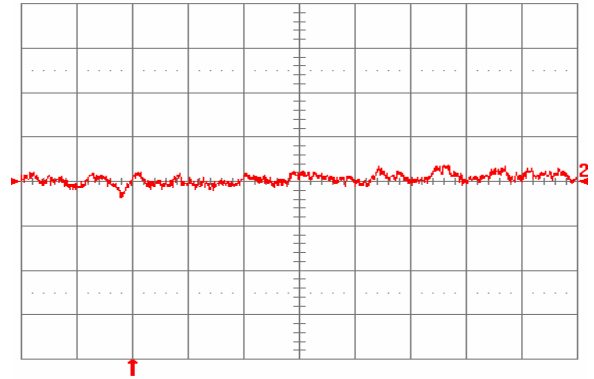

**Fig. 12V.14:** Test Setup for measuring input reflected ripple currents,  $i_c$  and  $i_s$ .
**Fig. 12V.1:** Available load current vs. ambient air temperature and airflow rates for SQ48T04120 converter with D height pins mounted vertically with  $V_{in} = 48\text{ V}$ , air flowing from pin 3 to pin 1, and maximum FET temperature  $\leq 120^\circ\text{C}$ .
**Fig. 12V.2:** Available load current vs. ambient air temperature and airflow rates for SQ48T04120 converter with D height pins mounted horizontally with  $V_{in} = 48\text{ V}$ , air flowing from pin 3 to pin 1, and maximum FET temperature  $\leq 120^\circ\text{C}$ .
**Fig. 12V.3:** Available load current vs. ambient air temperature and airflow rates for SQ48S04120 converter mounted vertically with  $V_{in} = 48\text{ V}$ , air flowing from pin 3 to pin 1, and maximum FET temperature  $\leq 120\text{ }^{\circ}\text{C}$ .
**Fig. 12V.4:** Available load current vs. ambient air temperature and airflow rates for SQ48S04120 converter mounted horizontally with  $V_{in} = 48\text{ V}$ , air flowing from pin 3 to pin 1, and maximum FET temperature  $\leq 120\text{ }^{\circ}\text{C}$ .
**Fig. 12V.5:** Efficiency vs. load current and input voltage for SQ48T/S04120 converter mounted vertically with air flowing from pin 3 to pin 1 at a rate of 300 LFM (1.5 m/s) and  $T_a = 25\text{ }^{\circ}\text{C}$ .
**Fig. 12V.6:** Efficiency vs. load current and ambient temperature for SQ48T/S04120 converter mounted vertically with  $V_{in} = 48\text{ V}$  and air flowing from pin 3 to pin 1 at a rate of 200 LFM (1.0 m/s).
**Fig. 12V.7:** Power dissipation vs. load current and input voltage for SQ48T/S04120 converter mounted vertically with air flowing from pin 3 to pin 1 at a rate of 300 LFM (1.5 m/s) and  $T_a = 25\text{ }^\circ\text{C}$ .
**Fig. 12V.8:** Power dissipation vs. load current and ambient temperature for SQ48T/S04120 converter mounted vertically with  $V_{in} = 48\text{ V}$  and air flowing from pin 3 to pin 1 at a rate of 200 LFM (1.0 m/s).
**Fig. 12V.9:** Turn-on transient at full rated load current (resistive) with no output capacitor at  $V_{in} = 48\text{ V}$ , triggered via ON/OFF pin. Top trace: ON/OFF signal (5 V/div.). Bottom trace: output voltage (5 V/div.). Time scale: 1 ms/div.
**Fig. 12V.10:** Turn-on transient at full rated load current (resistive) plus 1,000  $\mu\text{F}$  at  $V_{in} = 48\text{ V}$ , triggered via ON/OFF pin. Top trace: ON/OFF signal (5 V/div.). Bottom trace: output voltage (5 V/div.). Time scale: 2 ms/div.
**Fig. 12V.11:** Output voltage response to load current step-change (1 A – 2 A – 1 A) at  $V_{in} = 48$  V. Top trace: output voltage (200 mV/div.). Bottom trace: load current (1 A/div.). Current slew rate: 0.1 A/ $\mu$ s.  $C_o = 1$   $\mu$ F ceramic. Time scale: 0.5 ms/div.
**Fig. 12V.12:** Output voltage response to load current step-change (1 A – 2 A – 1 A) at  $V_{in} = 48$  V. Top trace: output voltage (200 mV/div.). Bottom trace: load current (1 A/div.). Current slew rate: 5 A/ $\mu$ s.  $C_o = 47$   $\mu$ F tantalum + 1  $\mu$ F ceramic. Time scale: 0.5 ms/div.
**Fig. 12V.13:** Output voltage ripple (50 mV/div.) at full rated load current into a resistive load with  $C_o = 10$   $\mu$ F tantalum + 1  $\mu$ F ceramic and  $V_{in} = 48$  V. Time scale: 1  $\mu$ s/div.
**Fig. 12V.15:** Input reflected ripple current,  $i_c$  (100 mA/div.), measured at input terminals at full rated load current and  $V_{in} = 48$  V. Refer to Fig. 12V.14 for test setup. Time scale: 1  $\mu$ s/div.
**Fig. 12V.16:** Input reflected ripple current,  $i_s$  (10 mA/div.), measured through 10  $\mu$ H at the source at full rated load current and  $V_{in} = 48$  V. Refer to Fig. 12V.14 for test setup. Time scale: 1  $\mu$ s/div.
**Fig. 12V.17:** Output voltage vs. load current showing current limit point and converter shutdown point. Input voltage has almost no effect on current limit characteristic.
**Fig. 12V.18:** Load current (top trace, 5 A/div., 20 ms/div.) into a 10  $m\Omega$  short circuit during restart, at  $V_{in} = 48$  V. Bottom trace (5 A/div., 1 ms/div.) is an expansion of the on-time portion of the top trace.